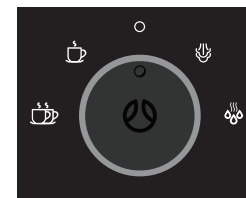

Fig. 12
4. Rotate the Dynamic Control Dial to Standby to stop dispensing hot water (see Figure 12).